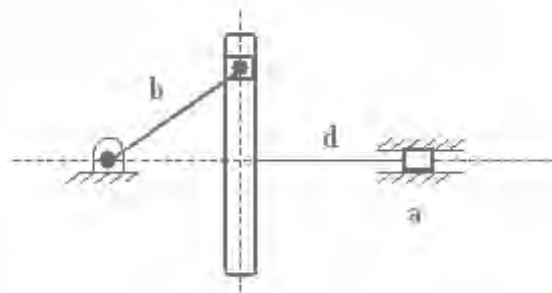

Figure 7
7. (a) Show that for the scotch yoke mechanism shown in figure 7 uniform rotation of the crank 'b' will produce simple harmonic motion of the slider 'd'.
(b) Name the inversion obtained by fixing link 'b' of the scotch yoke mechanism shown in figure 7. Describe the inversion with neat sketch. [8+8]